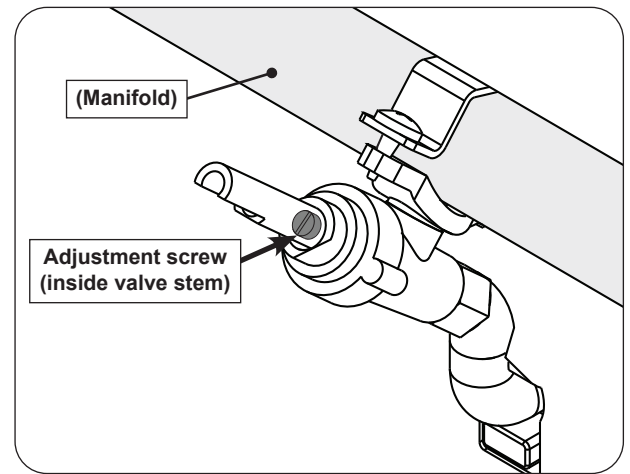

Fig. 45-1 Valve adjustment screw location
4. Locate the FLATHEAD adjustment screw found inside the valve stem (see Fig. 45-1).